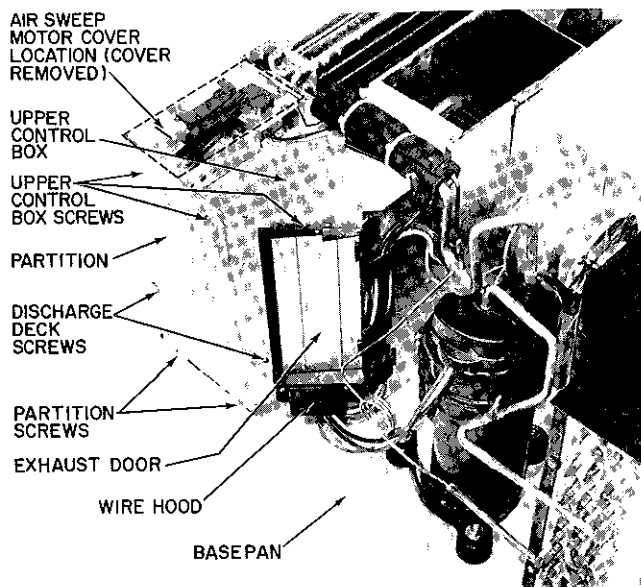

Fig 30 — Exhaust Door
34 **Exhaust Door** — See location of Exhaust Door in Fig 30
- e Remove 3 screws (Fig 30) securing upper control box to partition
- f Remove 2 screws (Fig 30) securing discharge deck to partition
- h Remove 3 screws (Fig 30 and 33) securing partition to basepan
c Remove motor cover by removing 2 screws See Fig 30